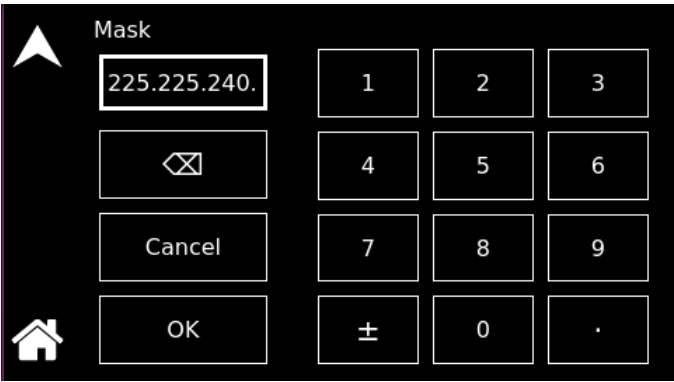

Figure 9-171. LAN Screen - Subnet Mask
- Subnet Mask:** Sets the subnet mask for use in static IP configuration. Refer to Figure 9-171.